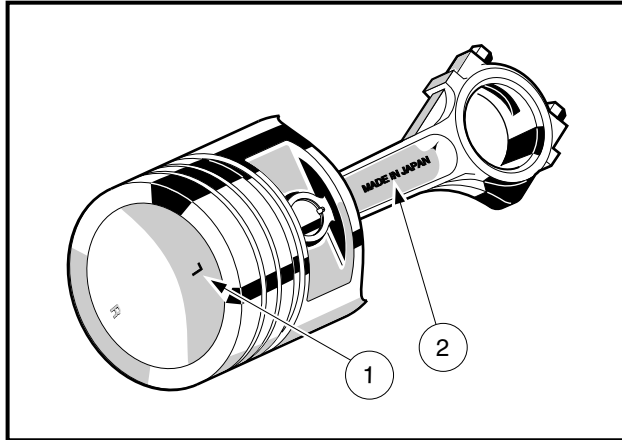

Figure 13-95 Piston/Connecting Rod Alignment
- Reassemble the piston and the connecting rod into a unit, if disassembled. Align the L mark (1) on the piston head toward the lettering MADE IN JAPAN (2) on the connecting rod (**Figure 13-95, Page 13-45**).